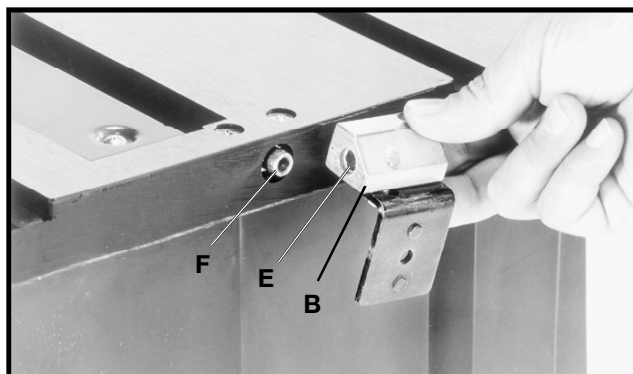
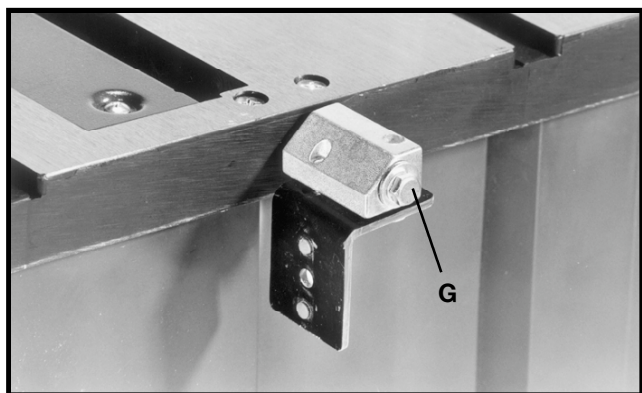

Fig. 11
Fig. 12
5. Position recessed end (E) Fig. 11, of splitter bracket (B) against end of pivot rod (F) and fasten in place using assembly from STEP 4 above. **NOTE: Do not completely tighten screw (G) at this time.** Assembly shown in Fig. 12.